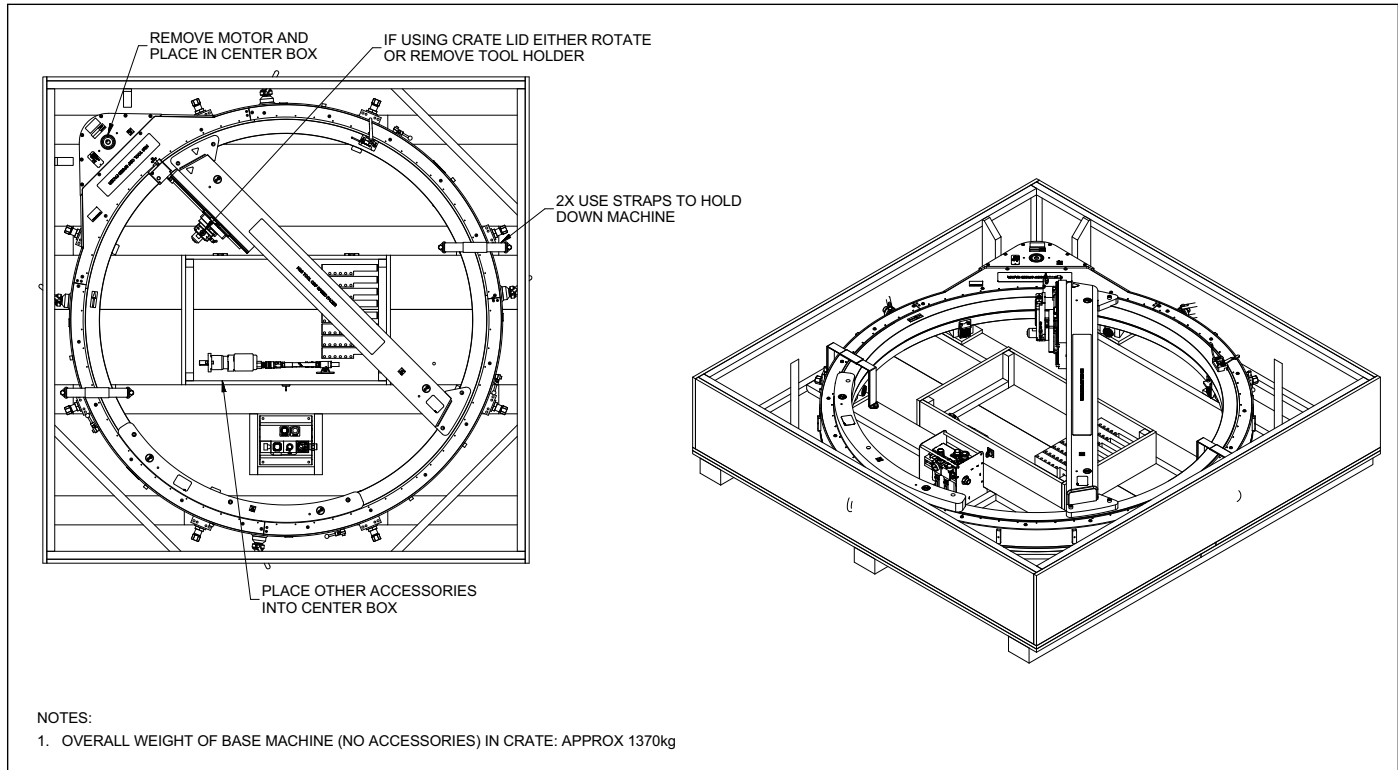

FIGURE 6-1. ODF70 CRATE
7. Store the ODF70 Speed Facer in its original shipping box (see Figure 6-1).
The ODF70 Speed Facer can be shipped in its original shipping container, as shown in Figure 6-1.